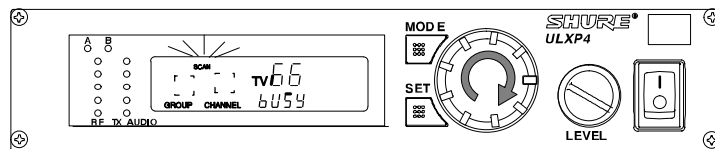

FIGURE 37
2. To begin scanning, rotate the control knob one quarter turn clockwise, as shown in Figure 37. The receiver will automatically begin scanning each Channel in all Groups. This may take up to two minutes, and the word "bUSY" will appear on the display.